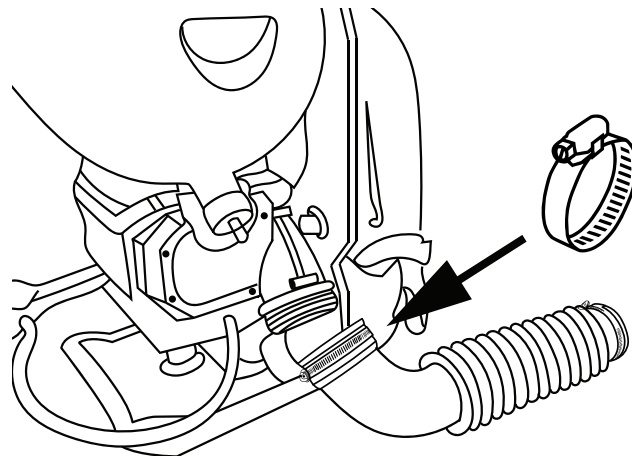

FIGURE 1
4.2.1 Connect the accordion tube to the fogger's blower elbow. Fasten in place using a phillips head screwdriver with the hose clamp. **FIGURE 1.**